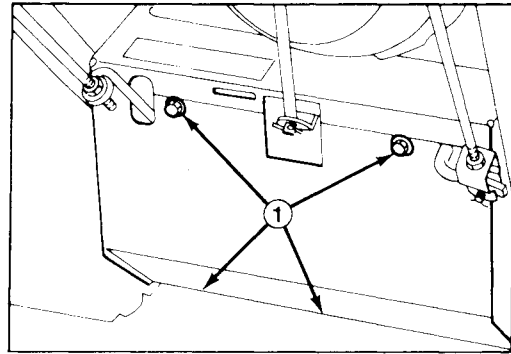

Figure 17
2. Tip snowthrower onto auger housing and block it so it cannot fall. Now remove four thread forming screws holding bottom cover in place, and slide shield away from unit (Fig. 17).